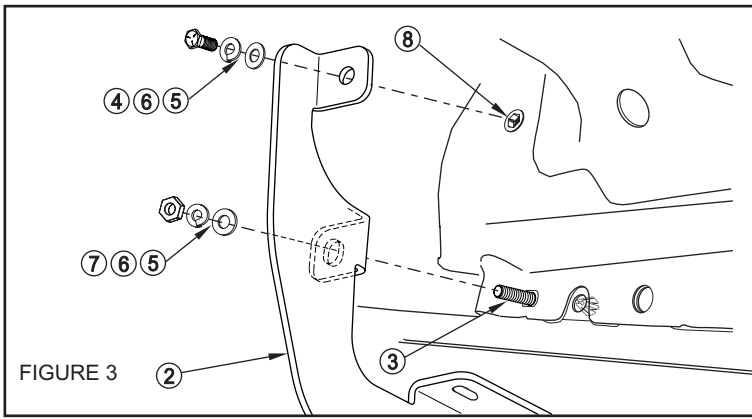
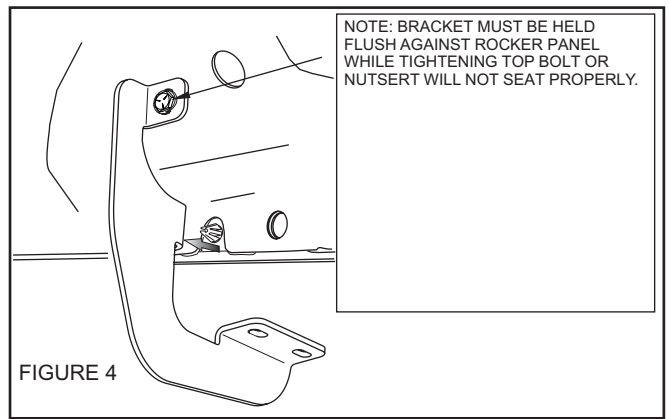

FIGURE 3
FIGURE 4
- STEP 4.** Loosely attach brackets as shown. **SEE FIGURE 3.** Tighten top bolt to crimp rivnut until increased resistance is felt. **SEE FIGURE 4.** Verify rivnut is not loose in hole, otherwise re tighten. Hold bolt plate parallel to rocker panel and tighten bottom nut. Re attach trim panel as shown. **SEE FIGURE 4.**